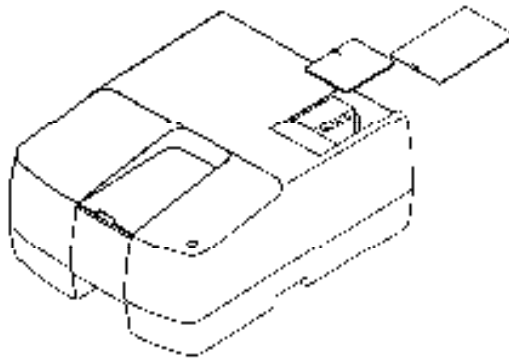

Figure 4.8 Removal of light source lid (V-550/560/570)
- (1) Slide the outer lid of the light source unit to remove it and then remove the inner lid (Fig 4.8).